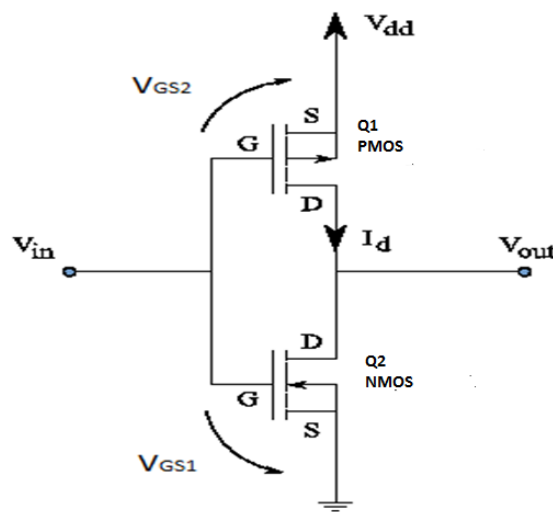

Figure 2.16: CMOS Inverter
- Gates of the two devices are connected to form the input terminal, and the two drain terminals are connected together to form the output terminal, as shown in Figure 2.16.